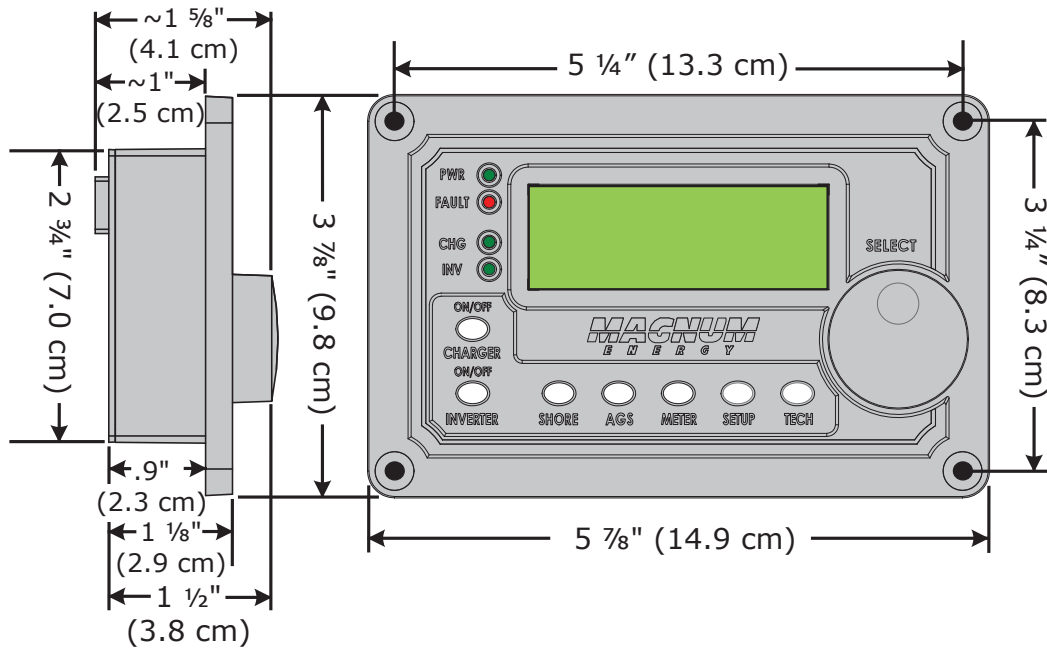

Figure 2-3, ME-RC Remote Dimensions
Use the information below (Figures 2-3 and 2-4) in preparation for mounting the ME-RC remote. Directions for mounting follow in Section 2.4.
2. Drill four pilot holes for the #8 x 3/4 screws that will attach the remote to the wall (refer to Figure 2-3 for remote hole locations and dimensions).